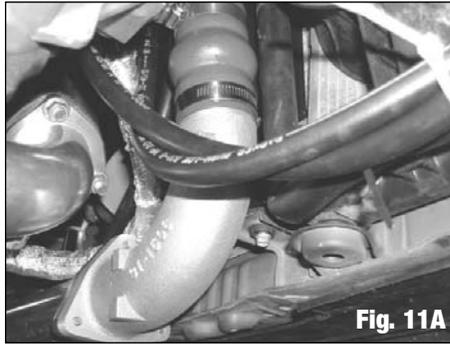
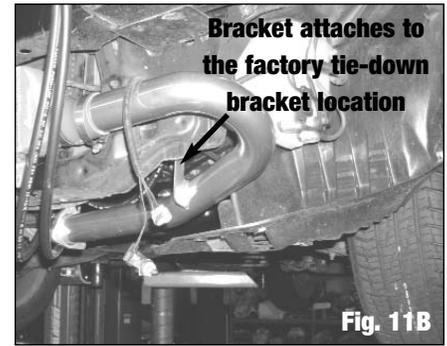

Fig. 11A
Fig. 11B
5. Attach Compressor Outlet Pipe to the compressor outlet using the supplied silicone connector and the appropriate hose clamps. The outlet of the compressor outlet pipe should face toward the driver's side of the vehicle (**See Fig. 11A**). Attach the intercooler inlet pipe to the compressor outlet pipe using the three 8mm x 1.25 (25mm long) bolts, O-Ring (Use a bit of grease on the O-Ring to hold in place), and the three 8mm split lockwashers. Attach the intercooler inlet pipe to the intercooler using a 2 1/4" to 2 1/2" silicone coupling and the appropriate hose clamps. Attach the bracket on the intercooler inlet pipe to the factory tie-down bracket location (which was removed earlier) using the factory bolt (**See Fig. 11B**). Attach the intercooler outlet pipe to the intercooler with one of the 2 1/4" to 2 1/2" silicone couplings and the appropriate hose clamps. Bolt the support bracket on the pipe to the inner fender using one of the factory lower airbox bolts.